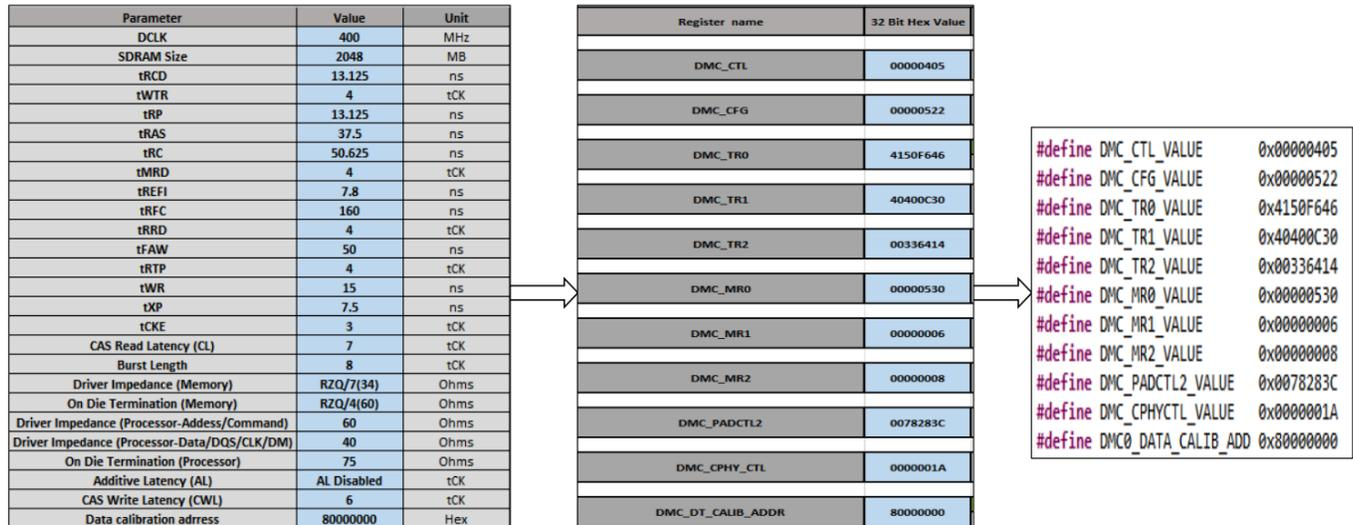

Figure 9. Generating DMC Register Values for the MT41K128M16-125 DDR3 Memory Device w/ DCLK = 400 MHz
**Answer:** Just change the DCLK parameter value in the `DMC_Registers_List.xlsx` spreadsheet and copy the generated DMC register values into the `main.h` file of the corresponding example DMC initialization code provided in the associated ZIP file[6]. For example, Figure 9 shows how to generate and use the DMC register values for the Micron MT41K128M16-125 DDR3 device with a DCLK frequency of 400 MHz instead of 450 MHz.